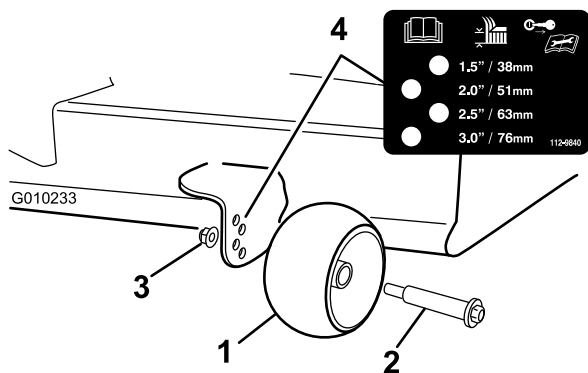

Figure 21
3. Adjust the anti-scalp rollers (Figure 21) to match the closest height-of-cut position.